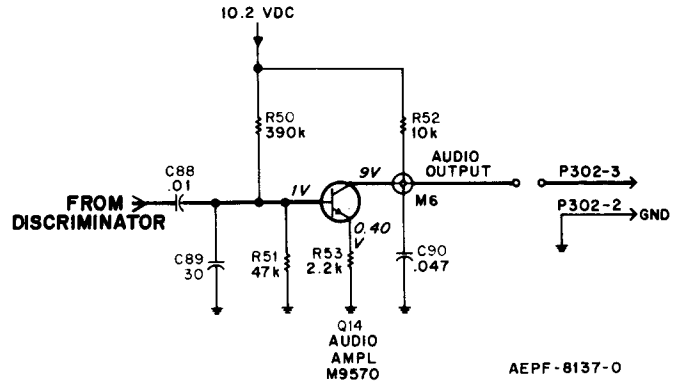

Figure 90. Typical Audio Amplifier Stage
(4) Audio Amplifier Stage (Refer to Figure 90)